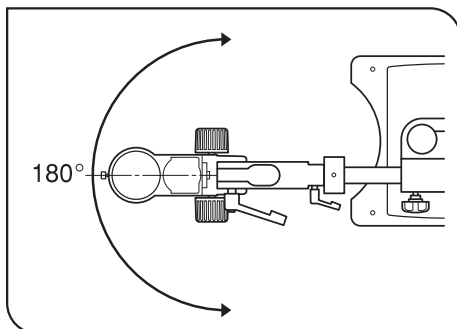

Fig. 21
6. To rotate the microscope body horizontally, loosen the clamping mechanism of the SZX stand arm or SZX microscope body. (Fig. 21)